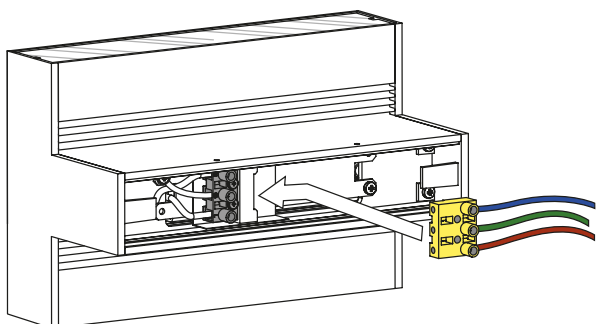

Fig.3
Connect the female connector (C) to the male connector (G) of the device.(Fig.3)